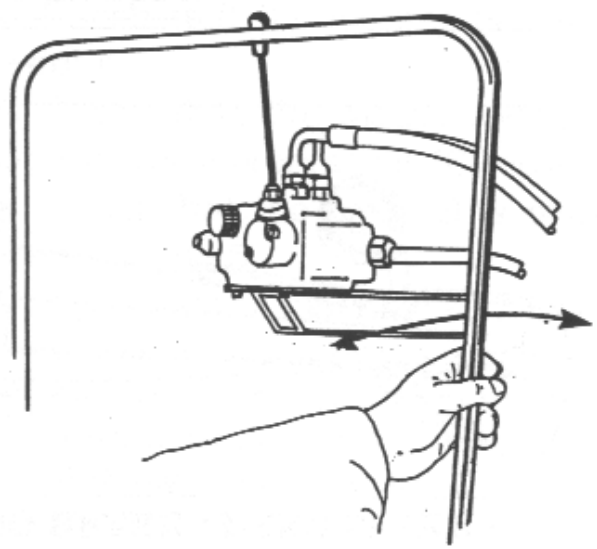

fig. 6
10. Pull the loading belt lever to rotate the belt toward the shredder and commence loading (Fig. 6). (Ø max. 8 cm.)
14. If you overload the belt, do not turn the machine off. All you must do is to adjust the distributor speed. Push the lever towards the Bio-Shredder to reverse the belt or centre it to stop the belt (see Fig.6.)